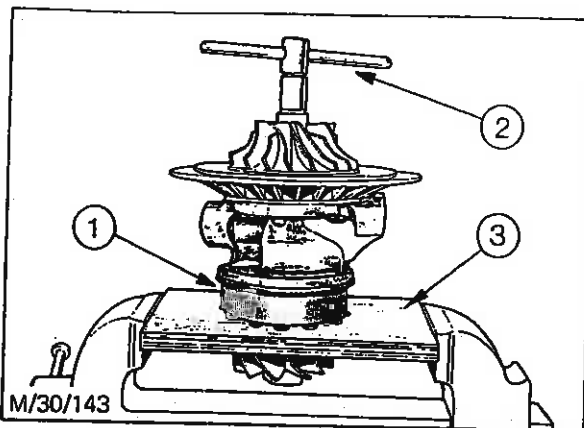

Fig. 43 - Compressor Wheel Locknut Removal
5. Using a T-handled wrench slacken the compressor wheel locknut, applying equal pressure to both ends of the 'T' to avoid possible bending of the shaft (Fig. 43).